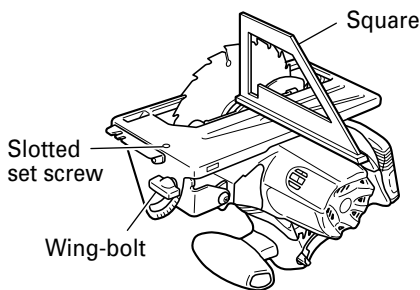

Fig. 22
- Turn the base face up (Fig. 22) and loosen the wing-bolt.